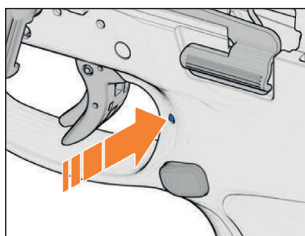

Figure 45 – Driving out pin
2. In case of weapons with pin for magazine catch: Drive out pin with pin punch (Figure 45).